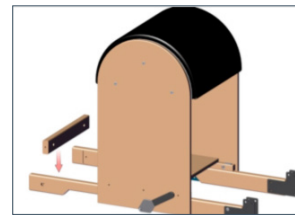

FIGURE 7
STEP 2 – Assemble the Cross Rail (E) to the recesses in Left Rail (C) and Right Rail (D) using Barrel Nuts (I), and 5/16" x 3-1/4" Hex Bolts with washers (J).
- Identify Cross Rail (E), Barrel nuts (I) and 5/16" x 3-1/4" Hex Bolts with washers (J).
- Refer to Figure 7. Slide the Cross Rail between each of the Rails (C, D) so that it slots into the recesses. The two holes in the Cross Rail should face inward, toward the Upholstered Barrel Assembly. The rails may need to be separated slightly to fit the Cross Rail between them, but be careful they do not disengage the spring-loaded plungers on the insides of the Upholstered Barrel Assembly. If they do slip out and disengage the spring-loaded plungers, go back to Step 1-c and reference Figures 5 and 6 to verify correct position.